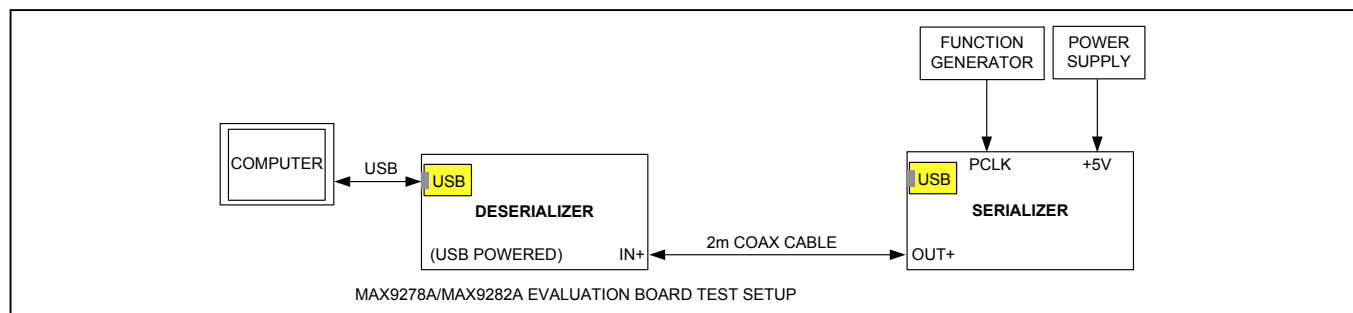

Figure 1. Deserializer Test Setup Block Diagram
- 4) Complete system setup, as shown in Figure 1.